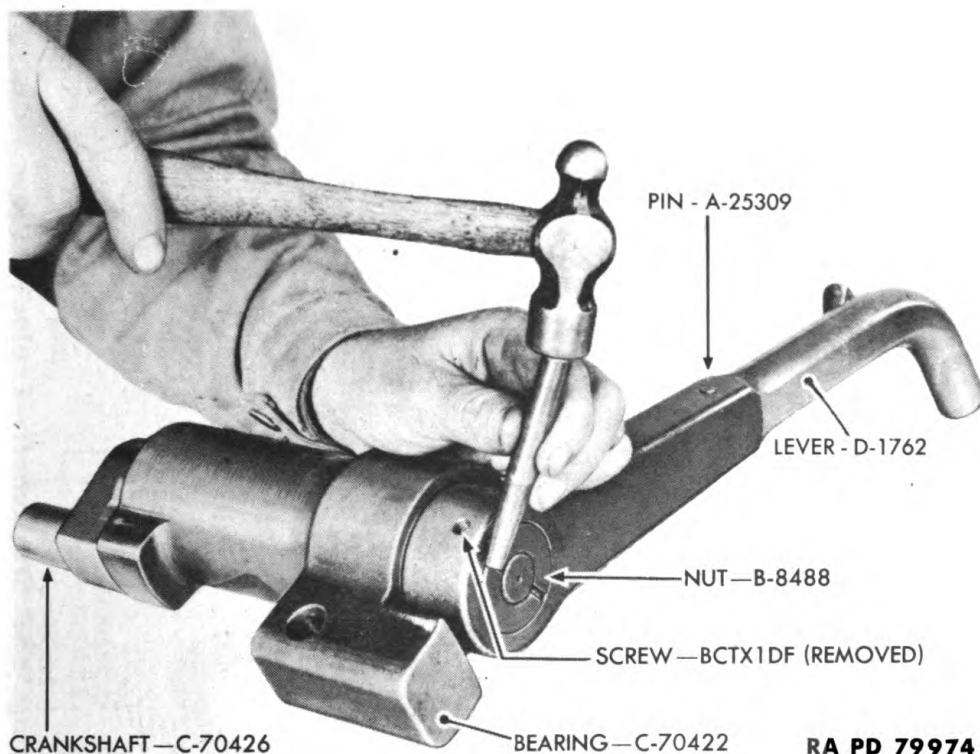
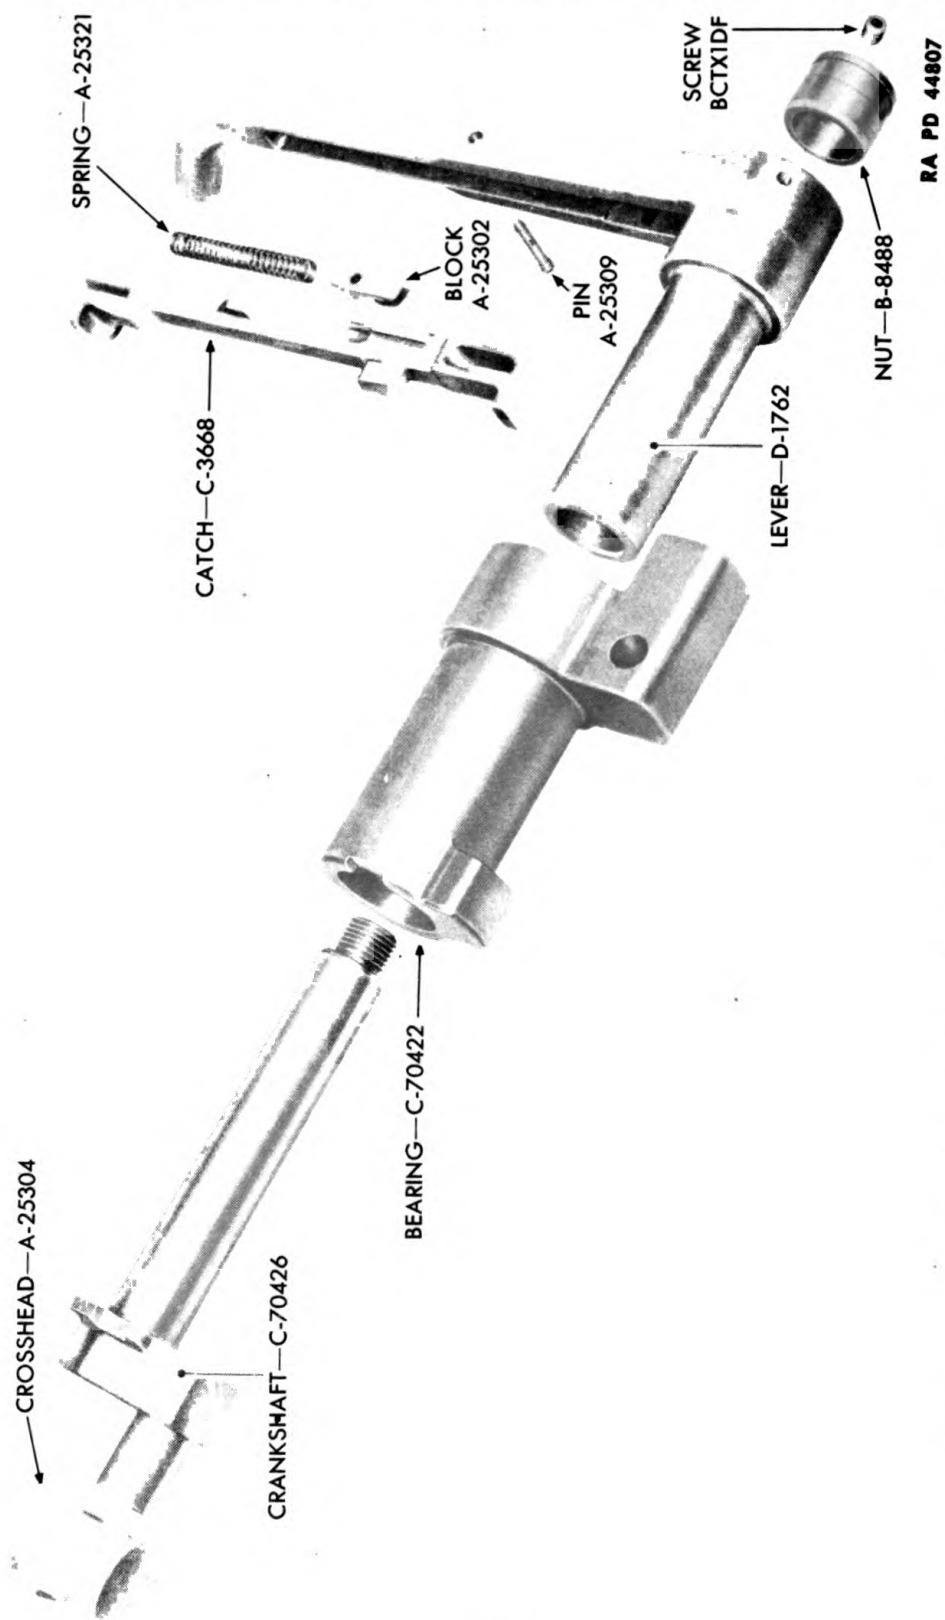

Figure 68—Removing Operating Lever Crankshaft Nut
Figure 69—Breech Operating Lever, Bearing, and Crankshaft—Exploded View
- (1) Place operating lever assembly on a clean workbench and remove screw BCTX1DF and nut B8488 (fig. 68).
- (2) Slide crankshaft C70426 and bearing C70422 off lever.
- (3) Place a small wood block under lever handle and drive out pin A25309.
- (4) Slide catch C3668, spring A25321, and block A25302 down, as a unit, into lever D1762; then pull out and up to remove them.
- (5) Remove block and spring from catch by taking hold of spring while prying up on block.
(6) The operating lever is now completely disassembled (fig. 69).
(1) Lubricate breechblock roller axis pin with OIL, engine (seasonal grade), and insert through breechblock roller. Slide roller and roller axis pin into position on breechblock.
(2) Secure in place with $\frac{5}{32}$ - x $2\frac{1}{4}$ -inch split cotter pin.
d. Assemble Breechblock Operating Lever, Bearing, and Crankshaft (fig. 69).
(1) Place operating lever catch spring in position in operating lever catch. Then insert spring end of operating lever catch spring block in other end of spring. Compress spring, and seat block in catch.
(2) Insert operating lever catch, spring and block in place in operating lever. Secure in position with retaining pin.
(3) Slide operating lever bearing in position on lever, follow with crankshaft, and secure bearing and crankshaft to lever with crankshaft nut and a $\frac{3}{8}$ -16NC-3 x $\frac{1}{2}$ inch long, cup-point, socket-head set screw (figs. 68 and 69).
(4) Lubricate assembly thoroughly with OIL, engine (seasonal grade).